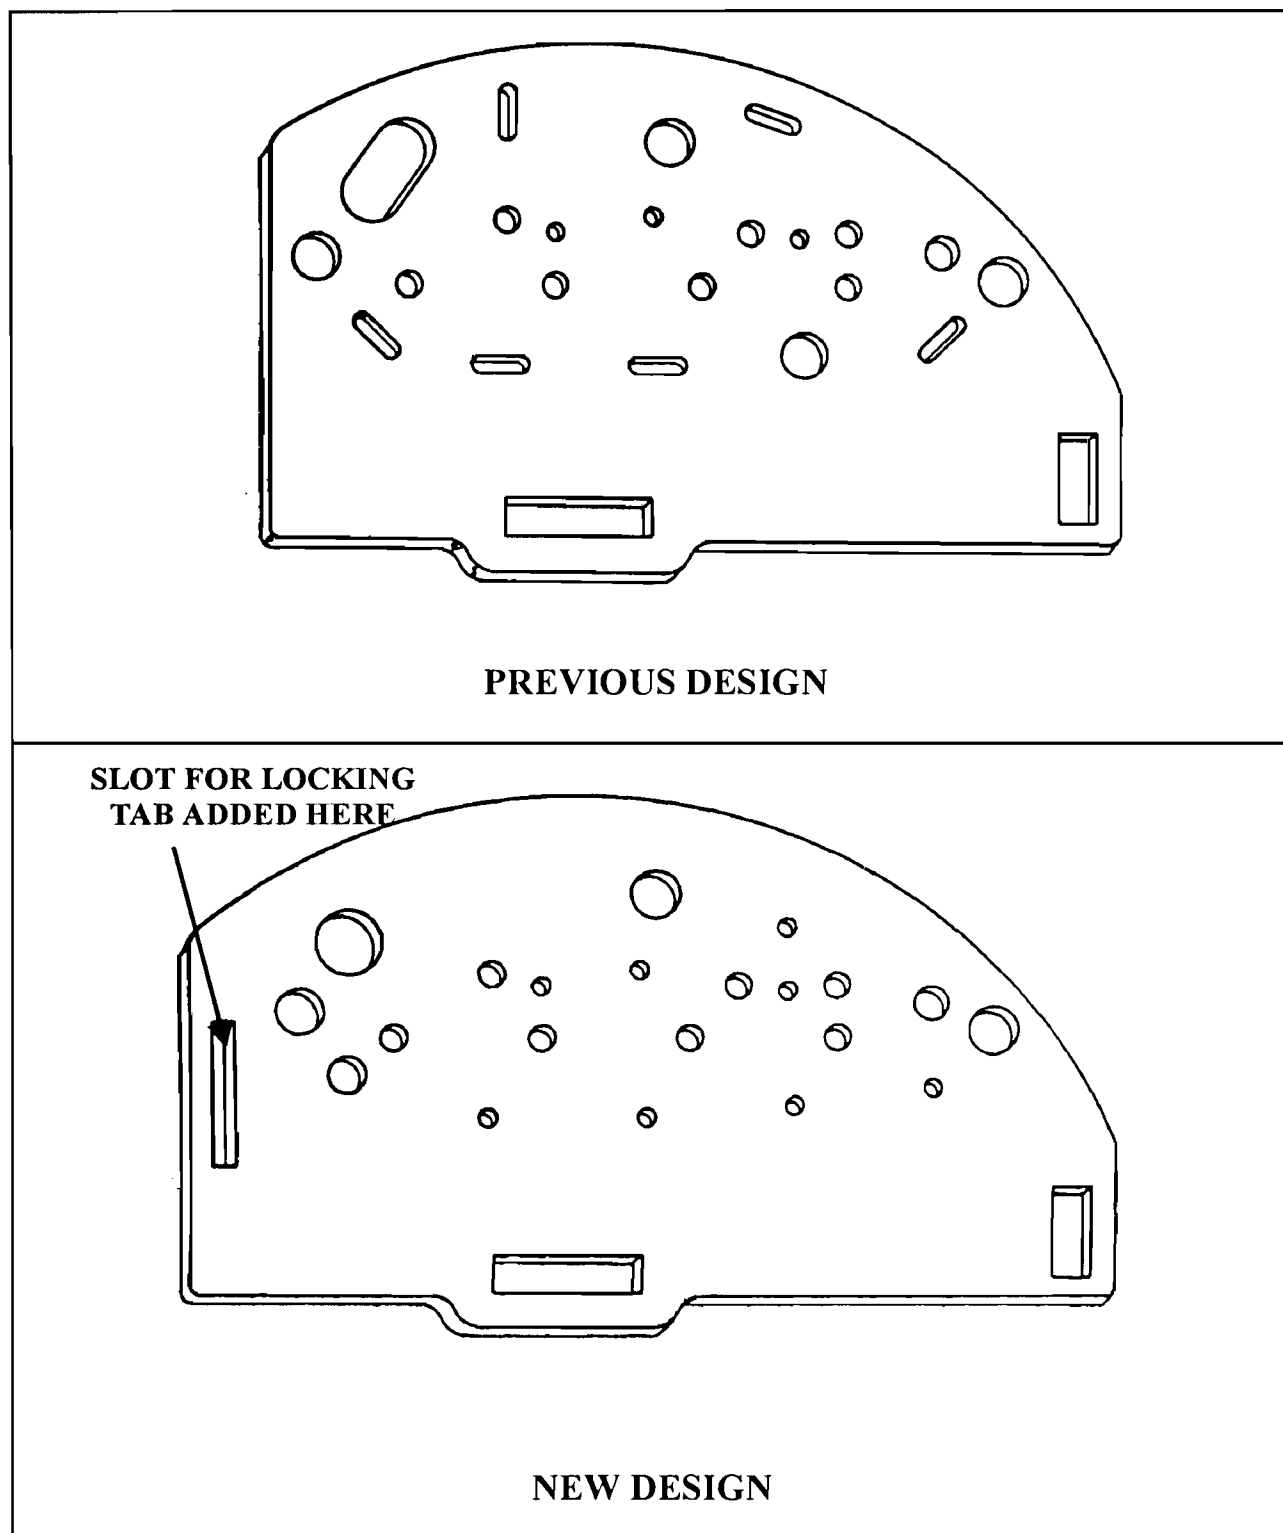

Figure 6
CHANGE : A running change for 1994 and all 1995 and up model years was made to the solenoid sound cover and spacer plate (See Figure 6).
- (1): **SOLENOID SOUND COVER** - An additional locking tab was added to the sound cover for a more secure fit to the solenoid spacer plate.
- (2): **SOLENOID SPACER PLATE** - The solenoid spacer plate received an added slot to accommodate the additional locking tab made to the solenoid sound cover. There were also subtle changes made to the venting holes and slots found in the spacer plate (See Figure 6).